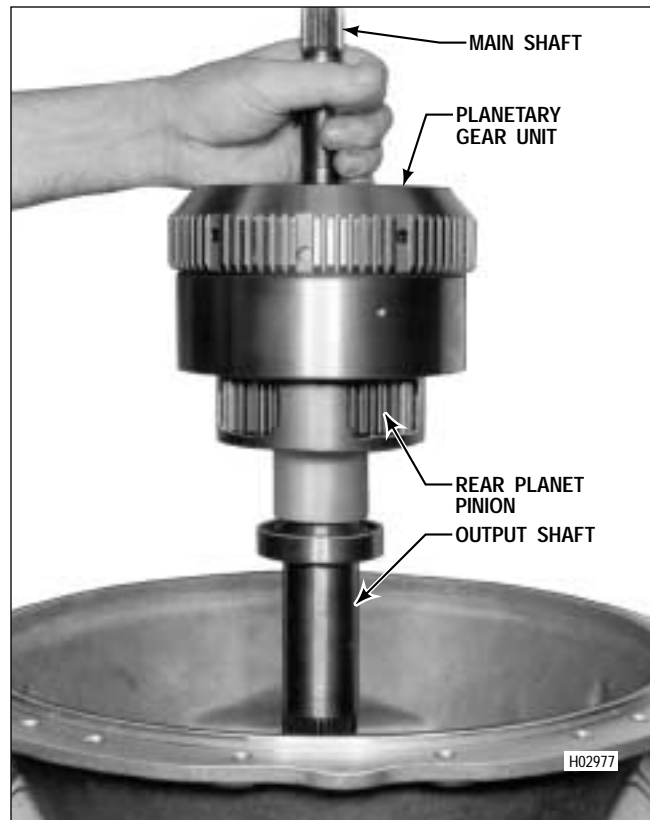

Figure 7-6. Installing Planetary Gear Unit
(3) On models after S/N 5070, grasp the planetary gear unit by the main shaft and lower the unit into the transmission (Figure 7-6). Mesh the internal teeth of the previously installed rear ring gear (Paragraph 7-4a(11) through (13)) with the rear planetary carrier pinion teeth. Be sure the unit bottoms.